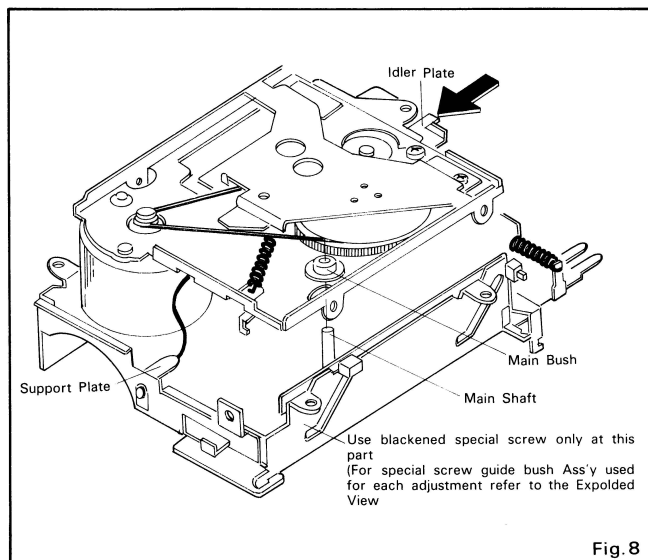

Fig.8
5. Solder the motor lead to the PWB and clamp the lead. When clamping, sufficient margin should be allowed so that the motor lead does not obstruct with the PLAY-EJECT operation (See fig.8)